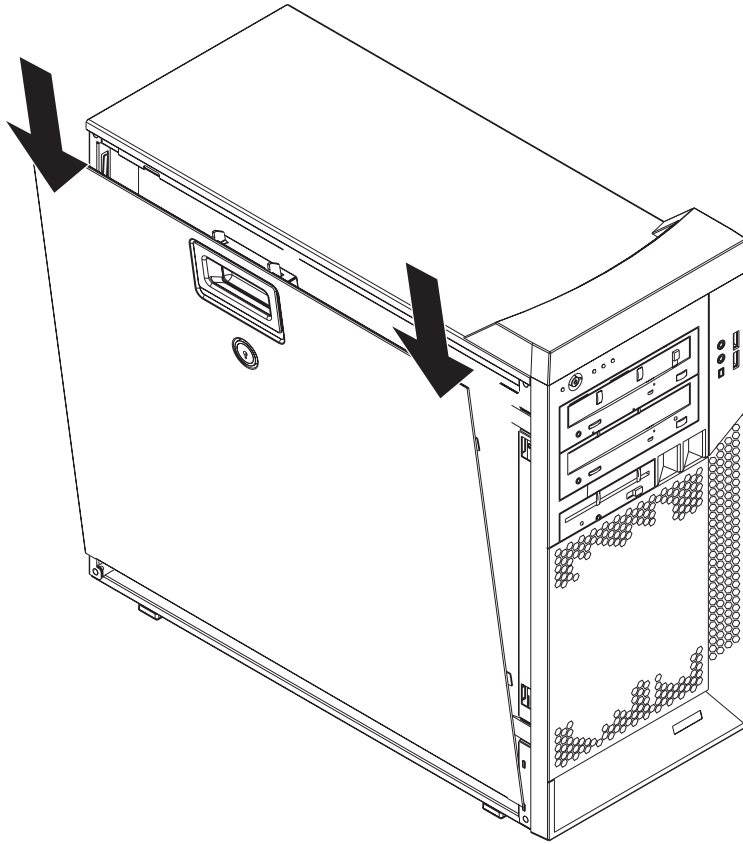

Figure 9. Installing the side cover
3. Insert the tabs inside the cover into the slots on the chassis (see Figure 9).